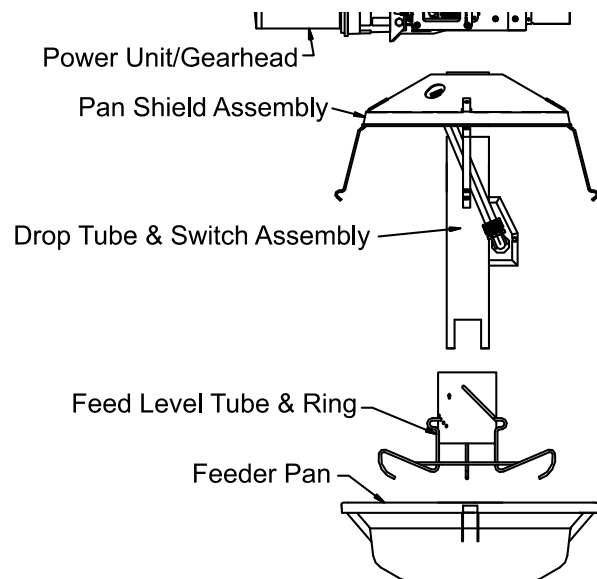

Figure 25. Drop Tube & Switch Assembly
5. Insert the Drop Tube and Switch Assembly through the Pan Shield, from the bottom, see figure 25. The hole in the Pan Shield should be located on the same side of the Drop Tube as the Switch Cord and directly under the white box on the body assembly. Bolt the Drop Tube to the Body Assembly. The switch on the Drop Tube should be mounted opposite the Power Unit.